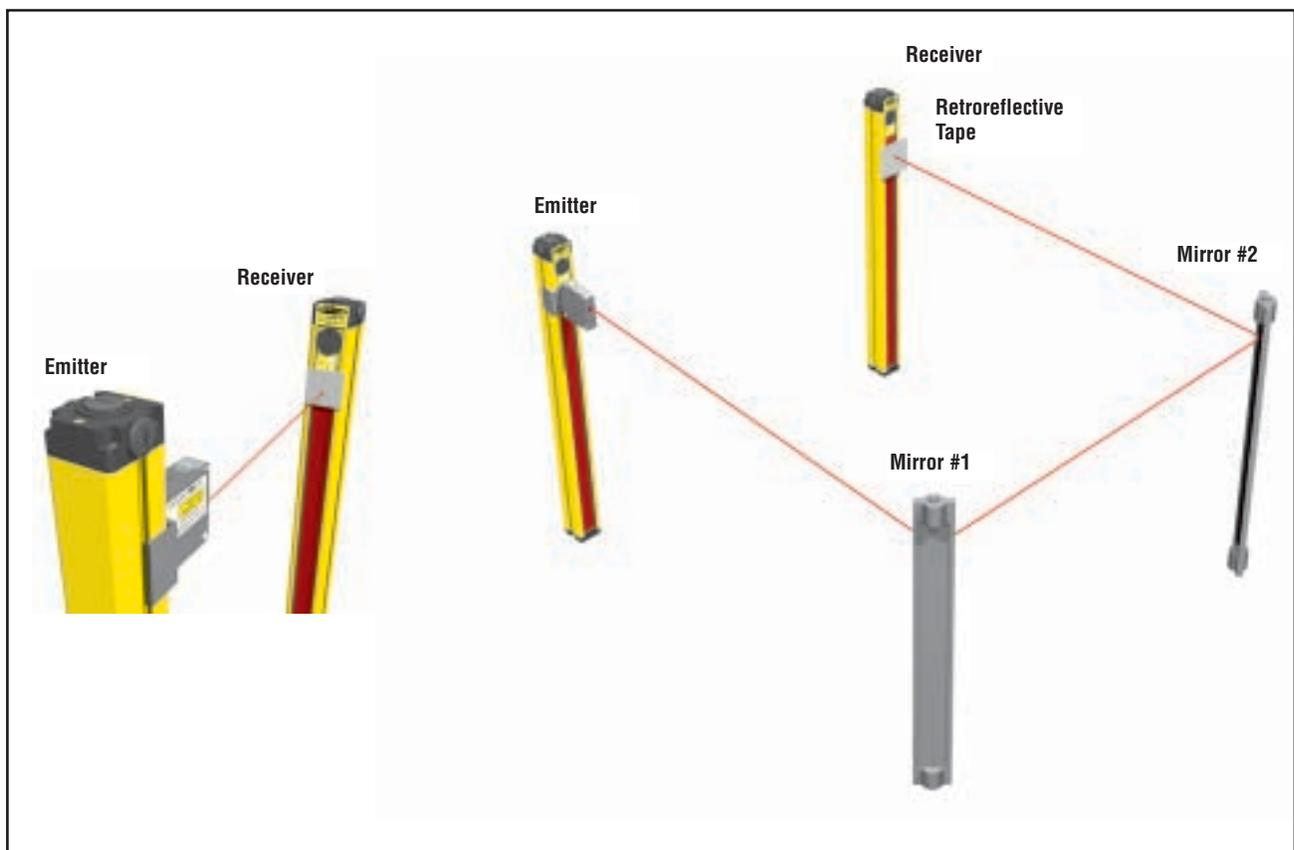

Figure 3-13. Optical alignment using the LAT-1
- 2) *If no corner mirrors are used in the application*, attach or hold a piece of reflective material, such as white paper, the reflective tape included with the LAT-1, or the optional clip-on reflective target, to the receiver at the corresponding beam 1 location. **Do not affix the self-adhesive backing of the reflective material to the sensor windows or to the mirror surfaces; the adhesive residue may not be easy to remove.** See Figure 3-13.